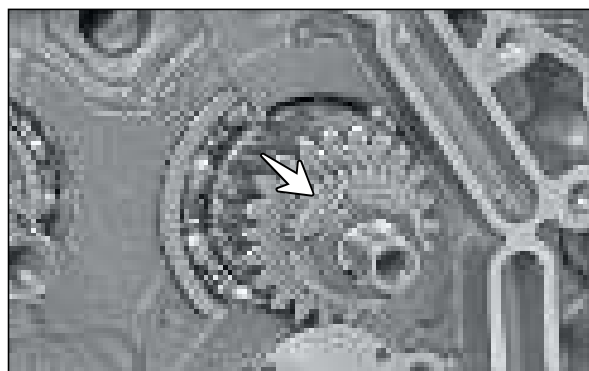

Fig. 3.129
- Unfold washer primary driven gear. (Fig. 3.129)